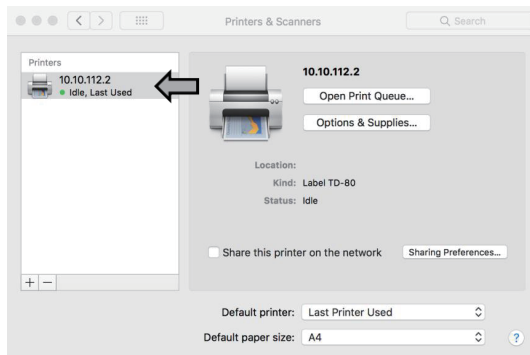

Fig.13
- ⑦ After installation is completed, the newly added printer driver will be listed under “Printers & Scanners” (see Figure 13).